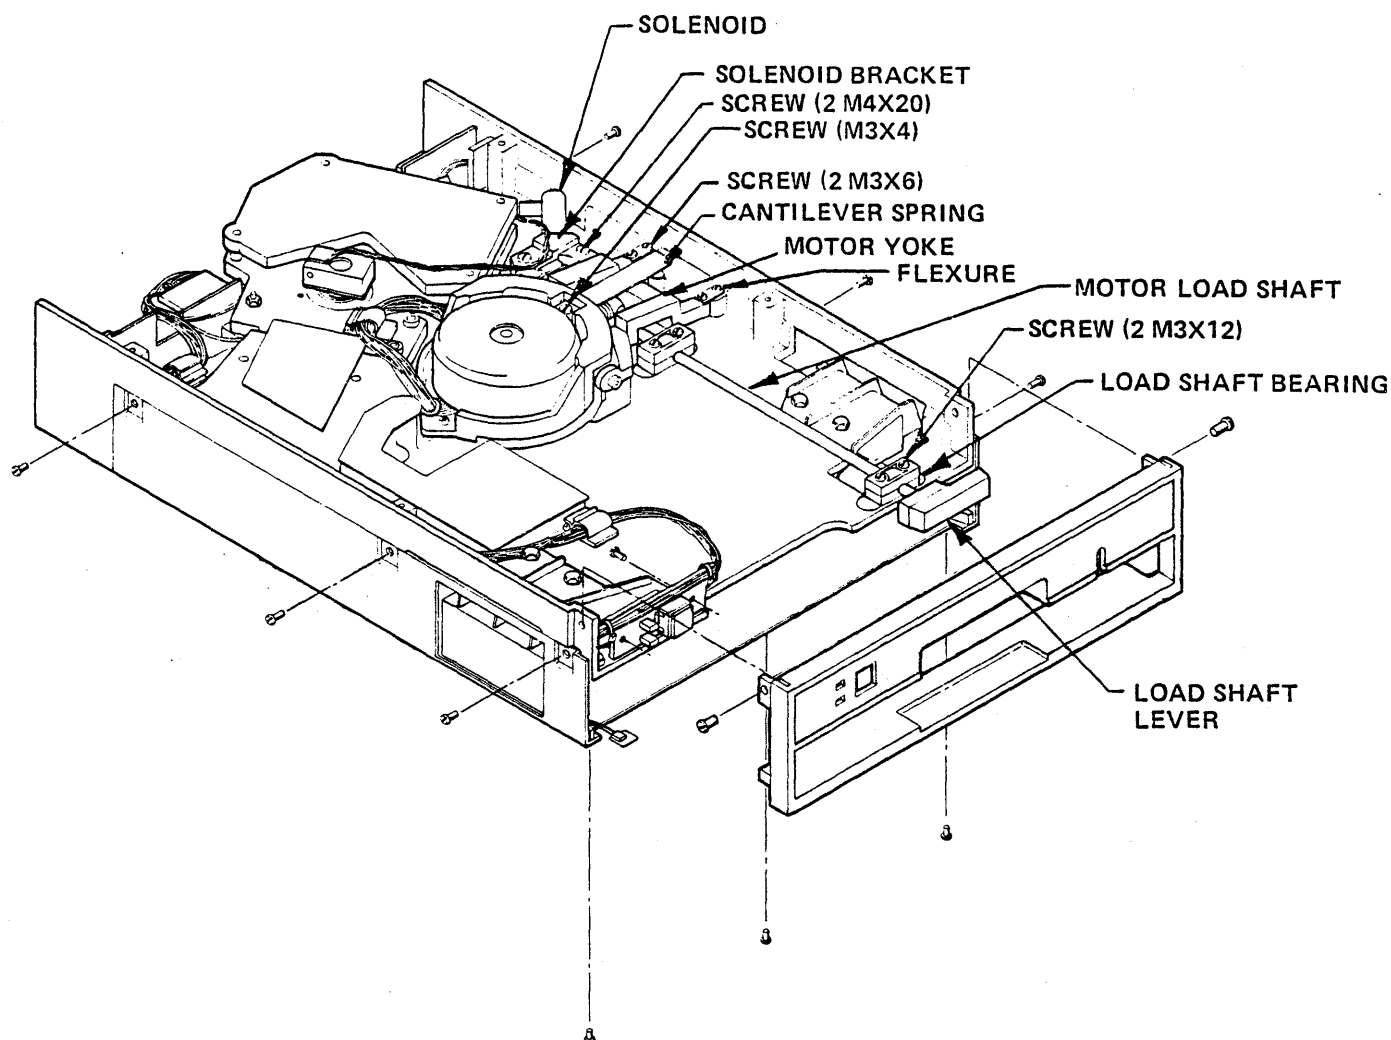

Figure 4-7. Removal of Solenoid Bracket/Motor Down Sensor and Shaft Assembly
The solenoid bracket holds the solenoid and the end bearing/sensor assembly in position (Figure 4-7). The solenoid prevents rotation of the load shaft lever when the motor is still spinning. The motor down sensor, mounted on the load lever end bearing, tells the microprocessor on the driver board that the motor is loaded and ready to spin up.
The end bearing retains the load shaft and also sets the end play between the back of the cartridge and the loading lever, which in turn positions the disk in the cartridge to the motor hub (Figure 4-7).
19. Install the cantilever spring (with the previously marked side up) (Figure 4-7) using one M3x4 slotted head screw. Put motor down for this operation.